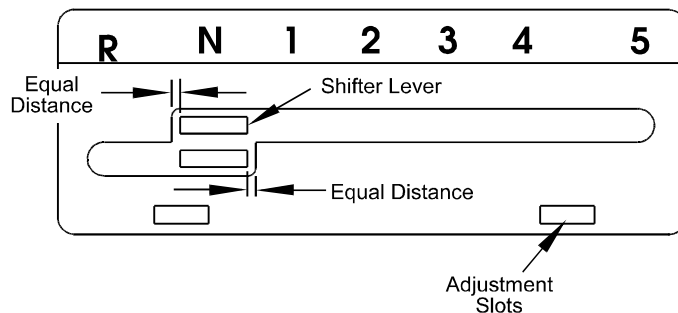

FIGURE 6
- c) Shift to neutral position. Lever should not contact the left edge of the upper slot. Push lever down. Lever should not contact the right edge of the bottom slot (See Figure 6). Shifter plate can be adjusted side to side to adjust position of lever relative to the slot in plate. Loosen the two bolts securing the shifter plate to the shifter lever legs. Adjust shifter plate and retighten bolts.